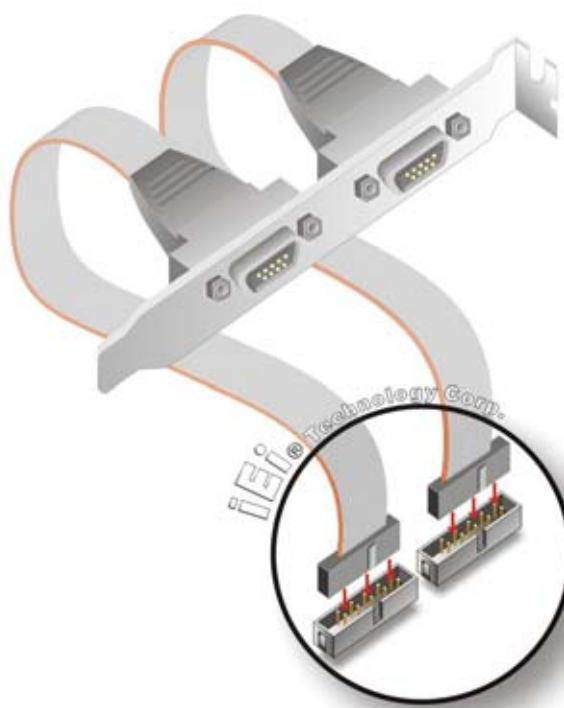

Figure 5-8: Dual RS-232 Cable Installation
Step 6: Insert the cable connectors. Insert one connector into each serial port box headers. See **Figure 5-8**. A key on the front of the cable connectors ensures the connector can only be installed in one direction.